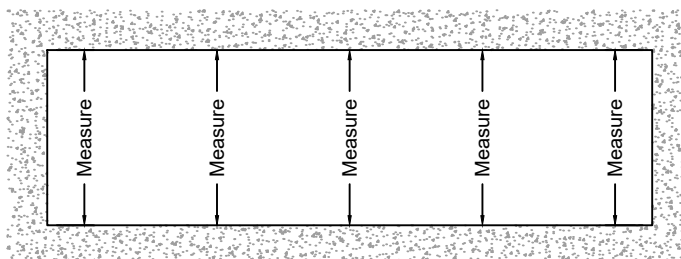

Fig. 22.3
- D. Measure the height of the opening (Rough Opening) at several points along the entire width of the opening. Select the smallest of these dimensions and subtract 1" (25.14mm) to allow a minimum of 1/2" (12.7mm) at sill and head for shim and caulking. SEE Fig. 22.3.